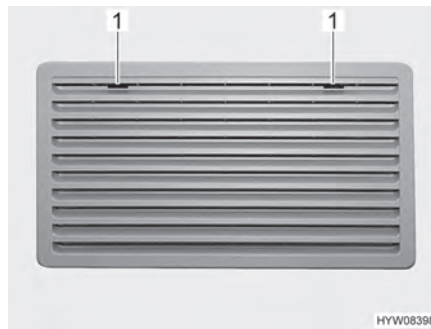
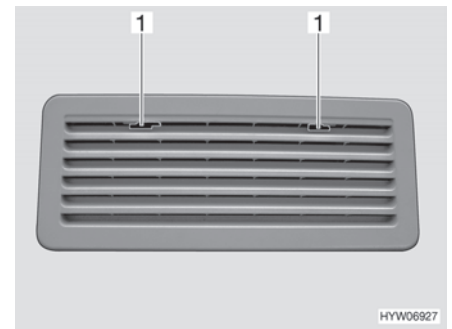

Fig. 126 Refrigerator ventilation grill (Thetford large)
Fig. 127 Refrigerator ventilation grill (Thetford small)
- Move the locking device (Fig. 126,1 or Fig. 127,1) to the middle.